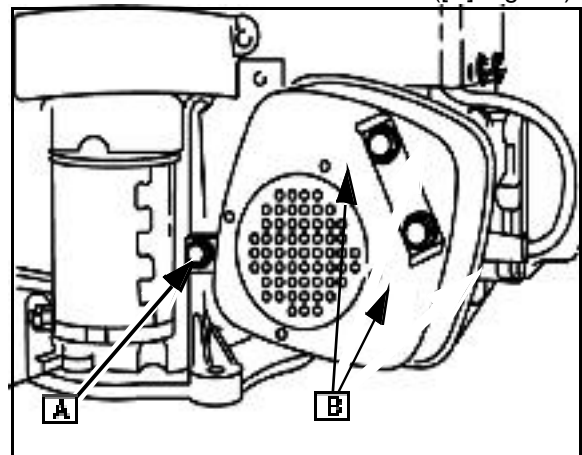

Fig. 29
- Remove muffler brace screw ([A] Fig. 29).
- Band back locking tabs ([B] Fig. 29).